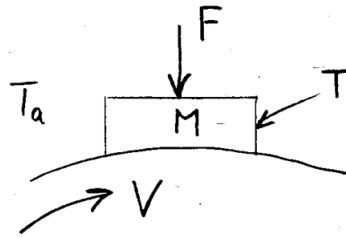

Figure 6.
6. In Figure 6 a mechanical brake block, of mass M , is pressed against the drum with force F . The coefficient of friction is μ , so that the friction force is μF . The surface velocity between the block and the drum is V . The friction power is converted into heat. The conversion factor that changes mechanical power into heat power is H . The block loses heat to the ambient T_a through a surface area A with heat transfer coefficient h . Determine the transfer function relating F and the temperature T of the block if all heat power is assumed to enter the block, of which the specific heat is c .